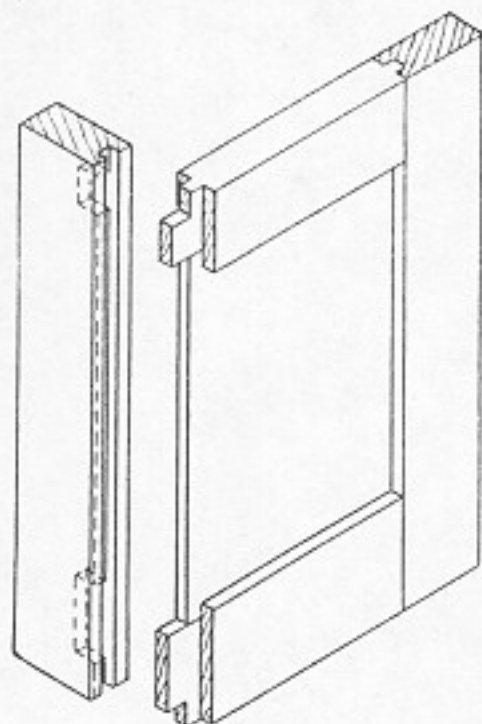

Fig. 261. Paneled structure, flat panel.
97. **Making a Paneled Structure.** A simple paneled structure (Fig. 261) consists of a central board, the panel, which is set into a frame, usually consisting of four pieces mortised together. The panel is generally made of thinner stock than the frame and is held in grooves cut
4. The panel is made either flat or raised (Figs. 261 and 262). Flat panels often are made of plywood. The panel should fit snugly in the grooves, not too loose and not too tight. It should be a little narrower and shorter than the inside width and length of the frame plus twice the depth of the grooves. This is to allow for expansion.